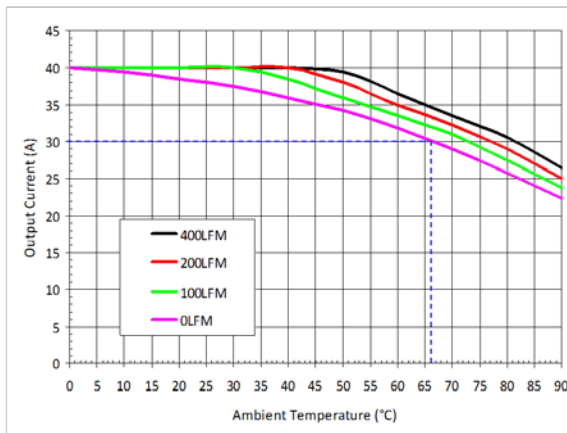

Figure 15: Thermal Derating Curve
Figure 15 shows the IR3552 thermal derating curve with the case temperature controlled at or below $125^{\circ}C$. The test conditions are $V_{IN}=12V$, $V_{OUT}=1.2V$, $f_{SW}=400kHz$, $L=150nH$ (0.29mΩ), $V_{CC}=7V$, $T_{AMBIENT} = 0^{\circ}C$ to $90^{\circ}C$, no heat sink, and Airflow = 0LFM / 100LFM / 200LFM / 400LFM.
If any of the application condition, i.e. input voltage, output voltage, switching frequency, VDRV MOSFET driver voltage, or inductance is different from those of Figure 15, a set of IR3552 case temperature adjustment curves should be used. Obtain the temperature deltas from Figure 10 to Figure 14 for the new application conditions; sum these deltas
8) From Figure 15, determine the highest ambient temperature at the required load current under the default conditions, which is $66^{\circ}C$ at 30A with 0LFM airflow and the IR3552 case temperature of $125^{\circ}C$.